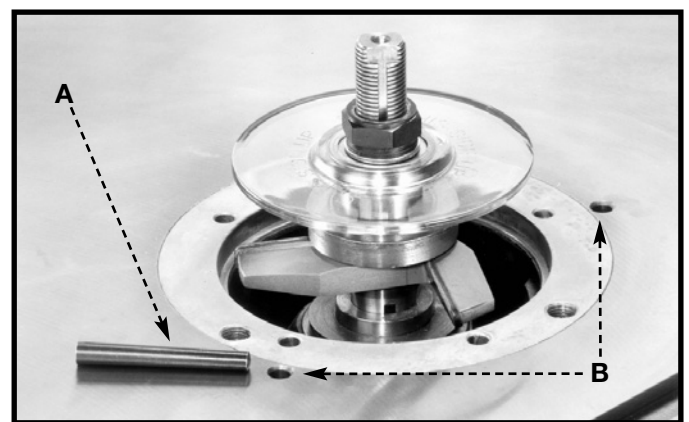

Fig. 73
1. The machine is supplied with a tapered starting pin (A) Fig. 73, which is used as a support when starting the cut. The starting pin (A) is placed in one of the tapered holes (B) in the table.